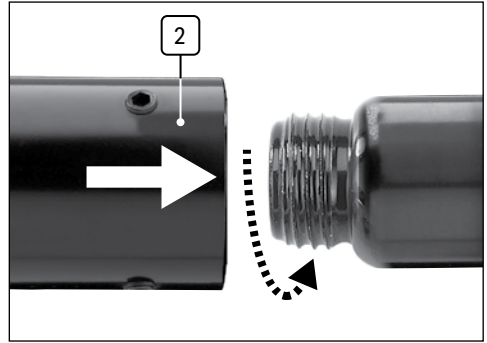

Fig. 4
6.3 Attaching the Scaling Head (Fig.4)
- Screw the head (2) clockwise onto the threaded cylinder of the tool body.